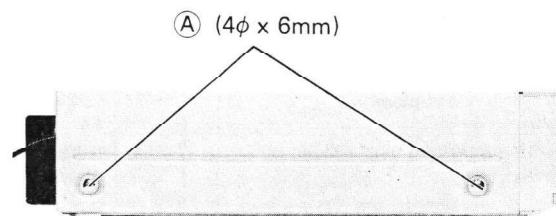

Figure 1
1. Remove four screws **(A)** ( $4\phi \times 6\text{mm}$ ) and two screws **(B)** ( $3\phi \times 6\text{mm}$ ), and the top cabinet can be removed from unit. (Figure 1, 2 and 3)